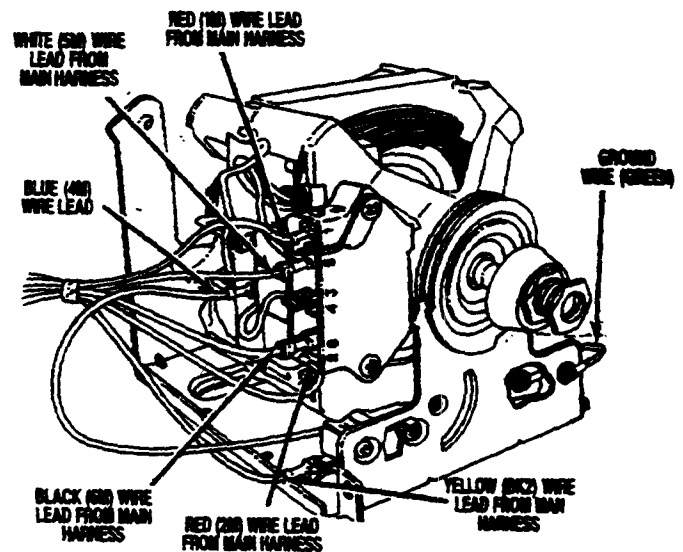

FIGURE 4
- Connect the blue (4M) wire lead from the broken belt switch to the vacant terminal located on the back of the overload protector of the motor switch. See Figure 4.
- Connect the red (1M) wire lead to the 1/4" terminal marked "1" on the motor switch. See Figure 4.
- Connect the red (2M) wire lead to the 1/4" terminal marked "2" on the motor switch. See Figure 4.
- Connect the yellow (BK2) wire lead to the vacant terminal on the broken belt switch. See Figure 4.
- Connect the white (5M) wire lead from main harness onto the 1/8" terminal marked "5" on the motor switch. See Figure 4.
- Connect the black (6M) wire lead onto the 1/8" terminal marked "6" on the motor switch. See Figure 4.
- Reconnect ground wire to motor. See Figure 4.